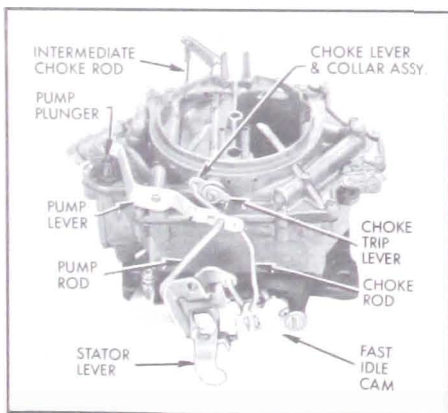

Figure 3-62—Exterior Linkage
1. Remove spring clip from upper end of intermediate choke rod and disengage rod from choke shaft lever. See Figure 3-62.
3. Remove choke trip lever and attaching screw. Disengage choke lever and collar assembly from choke shaft and disengage lower end of choke rod from fast idle cam. Then remove choke lever and collar, and choke rod as an assembly. See Figure 3-62.
21. Install choke rod, and choke lever and collar assembly. Install choke trip lever on end of choke shaft with "RP" out and tighten attaching screw. See Figure 3-62.